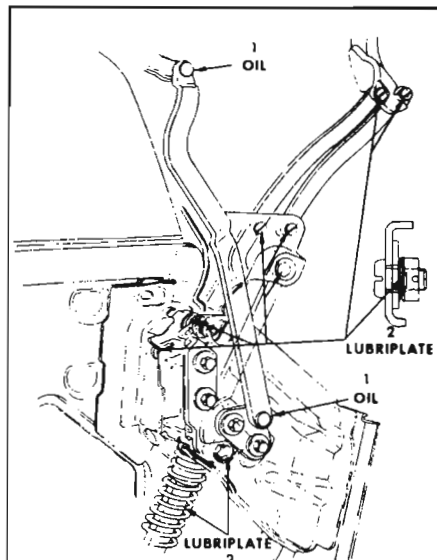

Figure 1-18—Convertible Top Linkage Lubrication
9. Convertible Top Mechanism - Apply a sparing amount of dripless oil to points indicated by "1" and Lubriplate or equivalent to those points indicated by "2" in Figure 1-18.